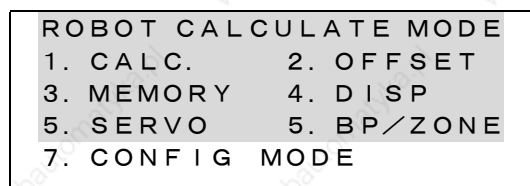

Fig. 20.13 Robot Calculation Mode
- (2) Select ROBOT 1.
- (3) Press the + keys to set KEY-IN mode for the Teach Pendant.
- (4) Press the + keys simultaneously. The shaded portion of the illustration, Fig.20.13, Robot Calculation Mode, appears on the screen. To display 「7. CONFIG MODE」, press the key to scroll the screen.